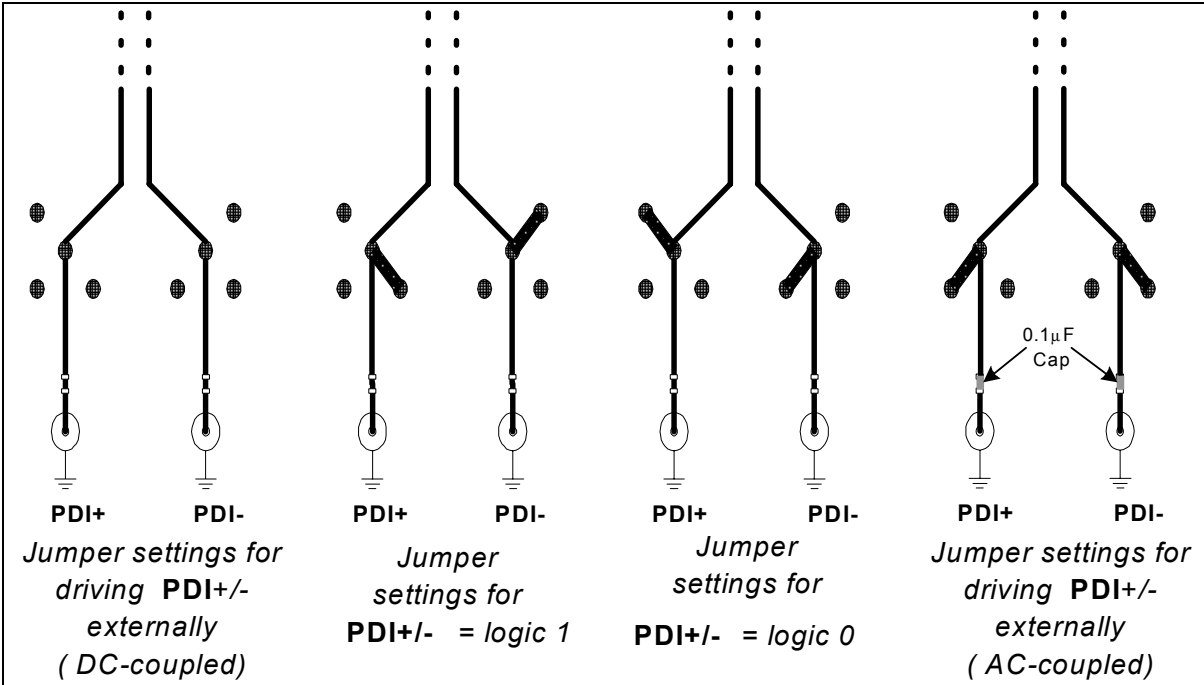

Figure 2. PDI± Jumper Settings
The MAX3952 EV kit simplifies evaluation of the MAX3952. The EV kit operates from a +3.3V single supply and includes all the external components necessary to interface with LVDS, CML, and LVPECL inputs/outputs of the MAX3952. The LVPECL inputs (REFCLK $\pm$ ) are externally terminated with 100 $\Omega$  resistors. The LVDS inputs (PDI $\pm$ , PCLKI $\pm$ ) are internally terminated with 100 $\Omega$  differential input resistance and therefore do not require external termination. Ensure that LVDS devices driving these inputs are not redundantly terminated. The CML outputs (SDO $\pm$ , SCLKO $\pm$ ) are optimized to drive a 50 $\Omega$  load. PCLKO $\pm$ , SDO $\pm$ , SCLKO $\pm$ , and REFCLK $\pm$  are AC-coupled with 0.1 $\mu$ F capacitors. The LVDS data and clock inputs are DC-coupled, but the lines can be cut and pads are available to allow the placement of AC-coupling capacitors. (See Figure 2)
- 3) Cut the removable traces for all of the PDI $\pm$  and PCLKI $\pm$  inputs and install 0.1 $\mu$ F capacitors. (See Figure 2)
- 5) For all PDI $\pm$  inputs, place a shunt in the 2.0k $\Omega$  to CMV position. (See Figure 2)